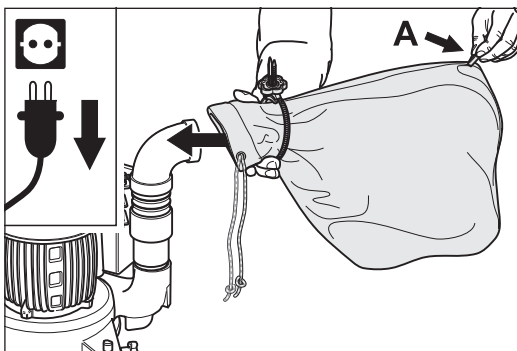

Fig. 5 Pull the dust bag over the suction pipe stub. The sling **A** must be on top.
- 3 Pull the opening of the dust bag over the suction pipe stub of the machine. Make sure that the sling on the dust bag is on top (fig. 5).